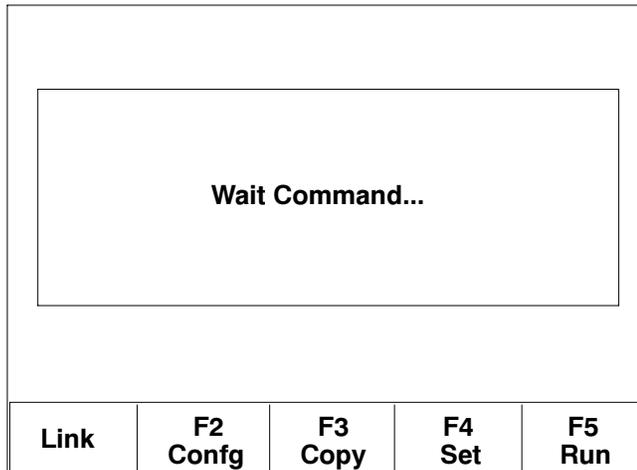

Figure 23 System Menu
The System Menu allows the operator to view and adjust communication settings or clear the annunciator memory. Level 1 access is required in order to display the system menu, which is shown in Figure 23.
2. Close the box and reconnect power to the annunciator. The system menu shown in Figure 23 appears after the startup screens.
1. From the System Menu shown in Figure 23, press the F2 Config button to access the configuration table shown in Figure 24.
From the System Menu screen shown in Figure 23, touch RUN to operate the annunciator to check the new settings, if desired. The Summary Screen appears as described in Section 2.1.
From the System Menu screen shown in Figure 23, touch F4 Set. Then touch Clear Data Ram.